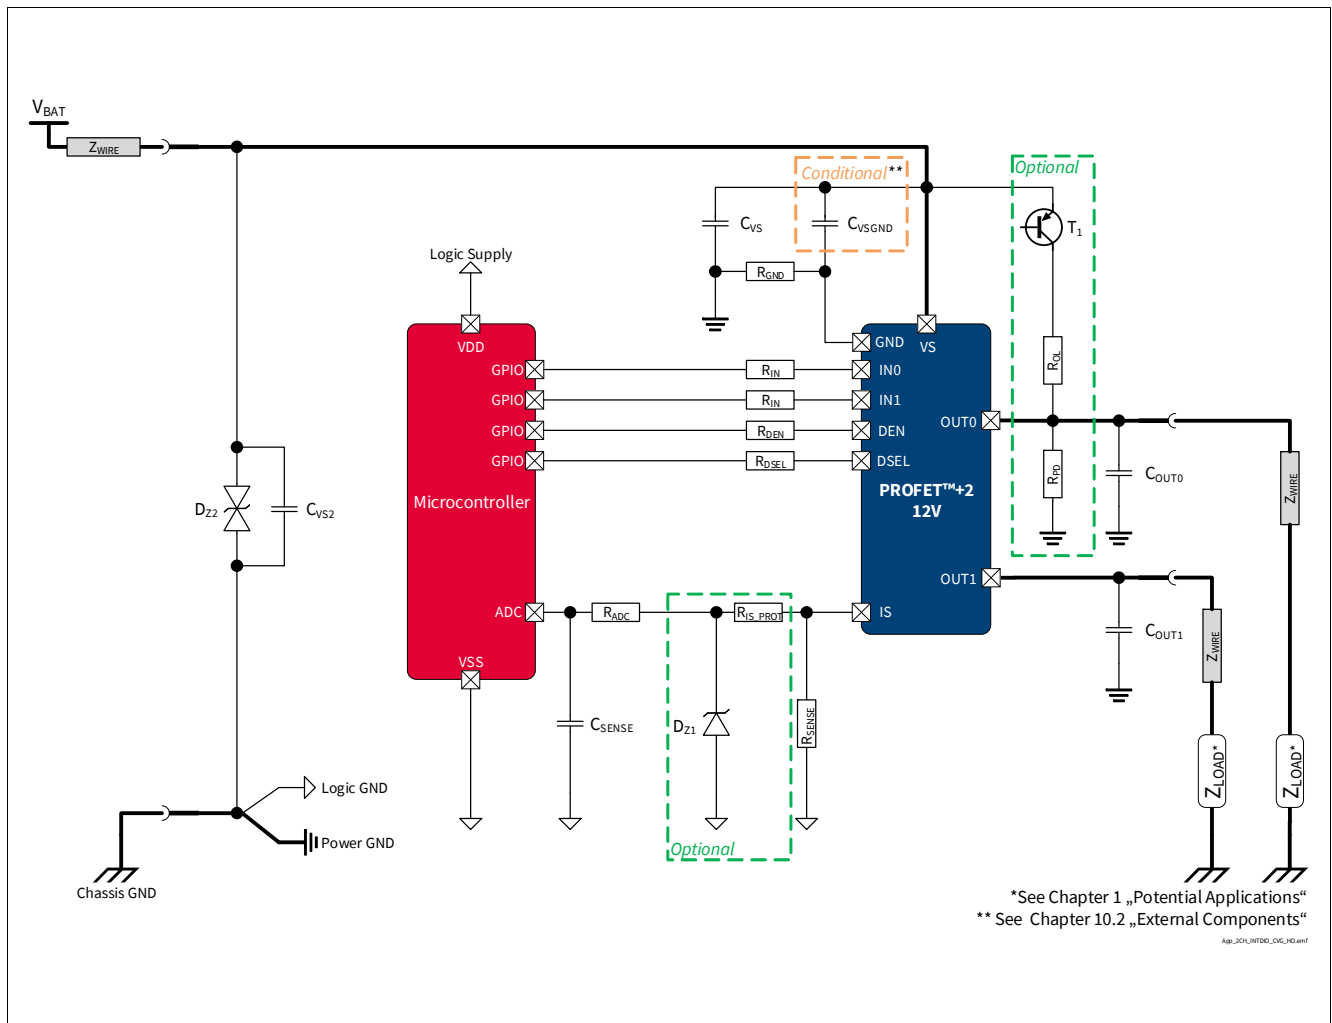

Figure 42 BTS7200-2EPA Application Diagram
1.03, 2019-10-15	<p>P_8.7.9.1, P_8.7.9.7, P_8.7.9.8 updated (added in Note or Test Condition: link to Figure 25)</p> <p>P_7.5.9.4, P_7.5.9.5 updated (added in Note or Test Condition: DEN = “low”; link to Figure 19)</p> <p>P_7.5.9.12 updated (added in Note or Test Condition: See Figure 21; deleted unnecessary space in Symbol: dVOUT / dt → dVOUT / dt)</p> <p>P_8.7.9.6 updated (added in Note or Test Condition: see Figure 26)</p> <p>P_9.7.9.1 updated (added in Note or Test Condition: See Figure 33)</p> <p>P_9.7.9.5 updated (Min./Typ./Max.: -45%/670/+45% → -25.0%/665/+25.0%)</p> <p>P_9.7.9.6 updated (Min./Typ./Max.: -36%/670/+36% → -24.0%/665/+24.0%)</p> <p>P_9.7.9.8 updated (Min./Typ./Max.: -30%/670/+30% → -22.5%/665/+22.5%)</p> <p>P_9.7.9.12 updated (Min./Typ./Max.: -14%/670/+14% → -11.0%/665/+11.0%)</p> <p>P_9.7.9.13 updated (Min./Typ./Max.: -11%/670/+11% → -8.5%/665/+8.5%)</p> <p>P_9.7.9.15 updated (Min./Max.: -6%/+6% → -6.0%/+6.0%)</p> <p>P_9.7.9.17 updated (Min./Max.: -5%/+5% → -5.0%/+5.0%)</p> <p>P_7.5.9.11 updated (added in Note or Test Condition: See Figure 19)</p> <p>Figure 1, Figure 42 updated</p> <p>Chapter 1 updated (or LED equivalent → or equivalent electronic loads (e.g. LED modules))</p> <p>P_4.3.0.7 added</p> <p>Table 24 updated</p> <p>Chapter 5.1 updated (added: see Chapter 10 for the complete application setup overview)</p>